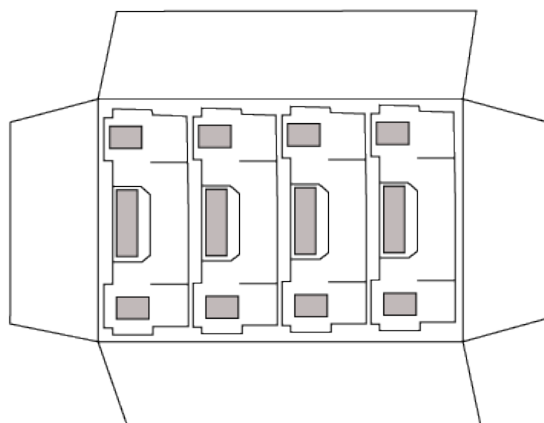

Figure 13: Transport cases packed
- When shipping several Glove Test Devices, we recommend packing the transport cases bundled in cardboard packaging (figure 13).